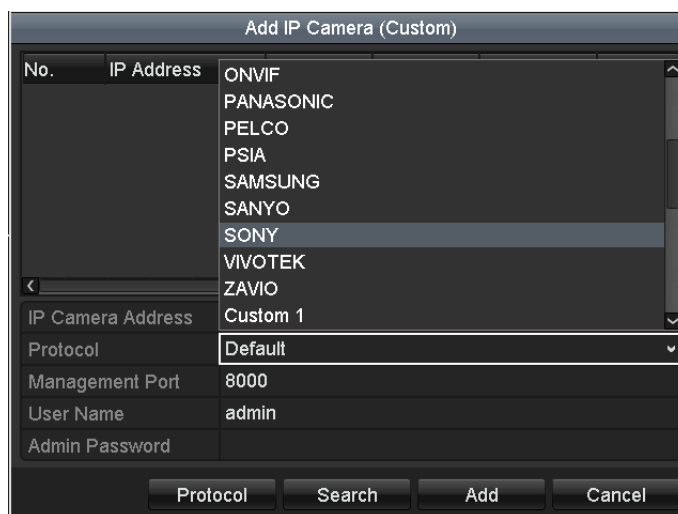

Figure 2. 18 Configure Custom Protocol
- Click the **Apply** button to save the settings and click **OK** to finishing customizing the protocol. After adding the customized protocols, you can see the protocol name is listed in the dropdown list, please refer to Figure 2. 18.